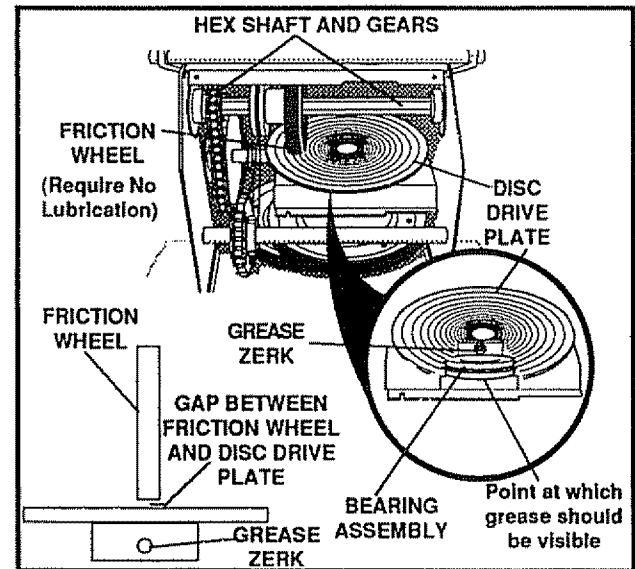

FIG. 18
- Turn disc drive plate clockwise by hand until grease zerk is clearly visible at front center. (see Fig. 18)
- To grease zerk, use a hand grease gun, lubricate with a Hi Temp EP Moly grease. (see Fig. 18 inset) DO NOT over fill or allow grease to come in contact with the disc drive plate or friction wheel or damage will result. Fill zerk only until grease becomes visible below bearing assembly located under grease zerk. (see Fig 18 inset)
- Hex Shaft and Gears - Hex shaft and gears require no lubrication. All bearings and bushings are lifetime lubricated and require no maintenance (See Fig. 18, page 17).
**NOTE:** For storage, the hex shaft and gears should be wiped with 5W30 motor oil to prevent rusting (See Fig. 18, page 17).